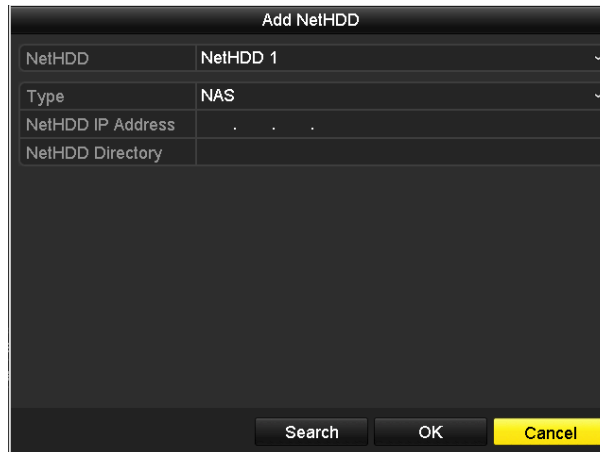

Figure 13-7 HDD Information Interface
Step 2 Click the **Add** button to enter the **Add NetHDD** interface, as shown in Figure 13-7.